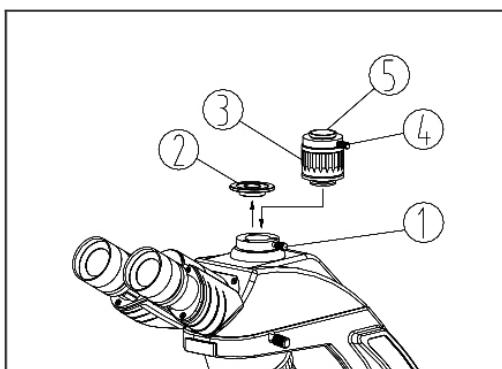

Fig. 17
1. Loosen the lock screw ① on the trinocular head and remove the dust cap ② on the trinocular port.
2. Remove the dust caps of the C-mount adapter and insert the C-mount into the trinocular head as shown in Fig. 17.
3. Screw the threaded end of the C-mount camera adapter ⑤ onto the camera and then install assembled C-mount and camera back onto the lower assembly. Lock it in place by tightening the lock screw ①.
5. Look at the camera image and adjust the focus of the camera image by the rotating ring ③ until it matches the focus as seen through the eyepieces.
6. Tighten the lock screw ④ on the C-mount.